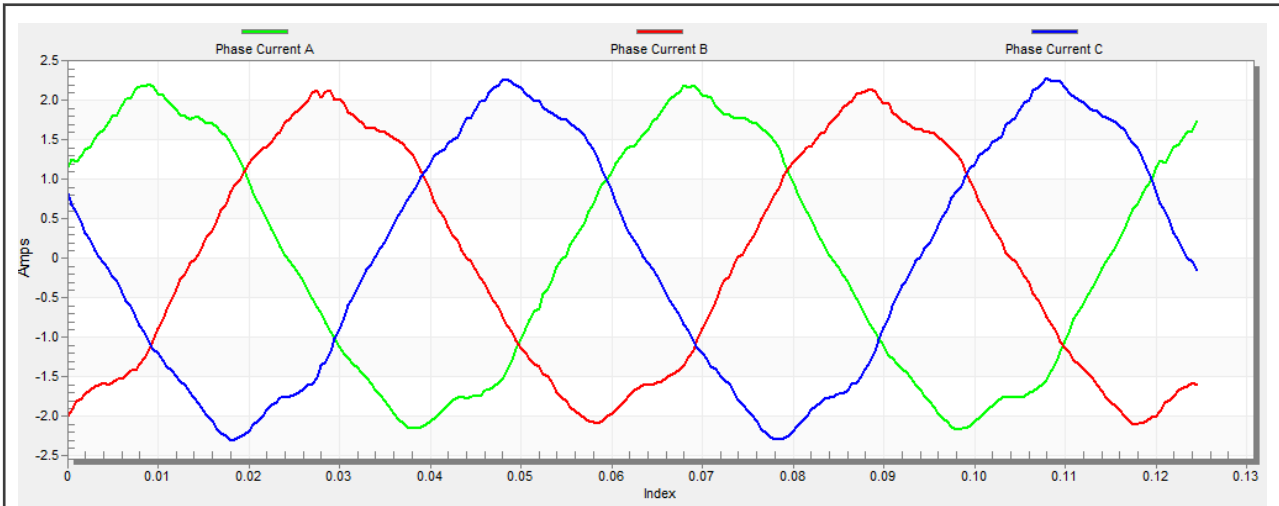

Figure 25. Phase currents
5. The optimal ratio for the V/Hz profile can be found by changing the V/Hz factor directly using the “M1 V/Hz factor” variable. The shape of the motor currents should be close to a sinusoidal shape (Figure 25). Use the following equation for calculation V/Hz factor: